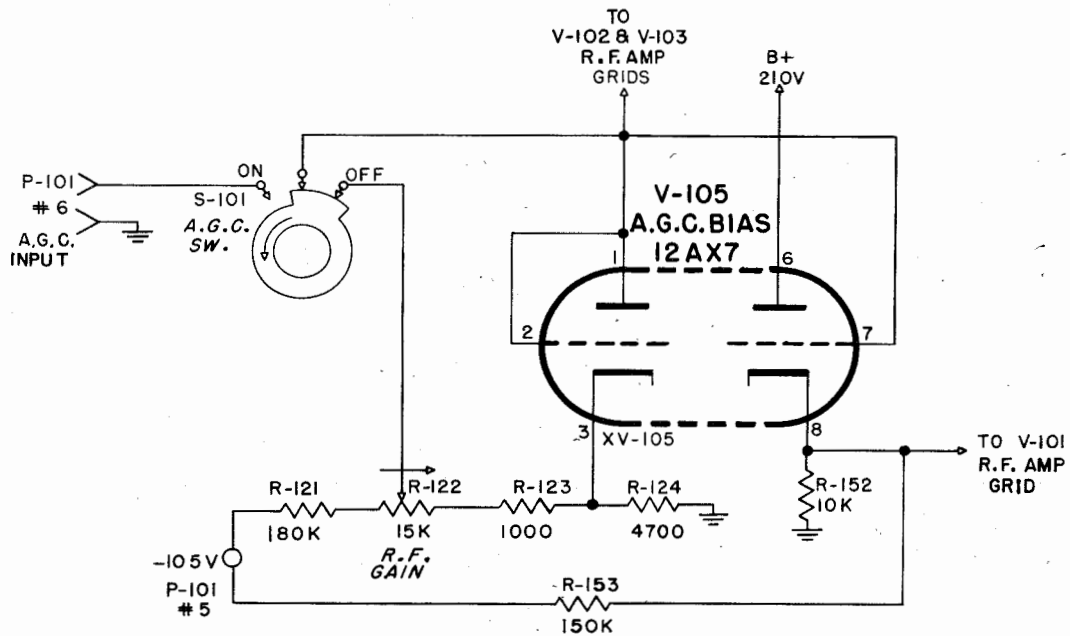

Figure 2-32. A.G.C. Bias Stage V-105, Simplified Schematic Diagram
(3) A.G.C. DELAY AND NOISE LIMITER CIRCUIT DETAILS, V-1009 (AM-438/FRR-24).—These circuits are identical in characteristics and operation to those described in paragraph 3. 1. (1) except for symbol number designations.
(4) A.G.C. BIAS CIRCUIT V-105 (Amplifier-Converter unit AM-450/FRR-24, AM-451/FRR-24, AM-453/FRR-24, AM-452/FRR-24). (See Figure 2-32).—Automatic gain control voltage is connected into the R.F. amplifiers through connector J-110. With the A.G.C. switch S-101 in the On position a negative automatic gain control voltage ranging from 3 to 15 volts is applied to the second and third R.F. stages. One-half of the A.G.C. bias tube V-105 is connected as a diode and provides a protective bias of minus 2.7 volts to the grids of the second and third R.F. stages in event the A.G.C. source is inadvertently removed. With the switch in the Off position a fixed bias is applied to V-102 and V-103 due to the manner in which the R.F. Gain control is connected in the B-minus voltage divider network. The bias voltage will range from a negative 3 volts to a negative 15 volts depend-